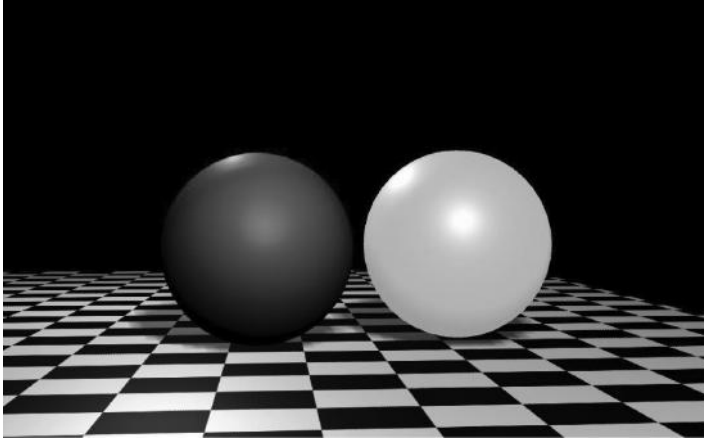

FIGURE 4.47 (SEE COLOR INSERT) Incandescence multiplies the value on top of the entire rendered sphere, making all of the pixels brighter at once.
**Incandescence**—Incandescence is similar to ambient color, but the color value is multiplied on top of the lighting, which causes the object to get completely white when this value is turned up to white. The RGB color value is multiplied on top of the material color value and will wash out the lighting if turned up all the way. Figure 4.47 shows this effect, with the same values as the ambient color setting in Figure 4.46. Notice the difference in effect? The incandescent value multiplies all color information including lighting (instead of just the diffuse color